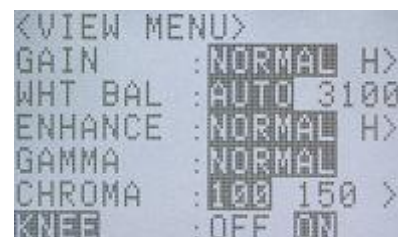

Figure 3-61 KNEE(VIEW MENU)
- 2) Use the arrows   to select "KNEE" from the VIEW MENU. (Figure 3-61)